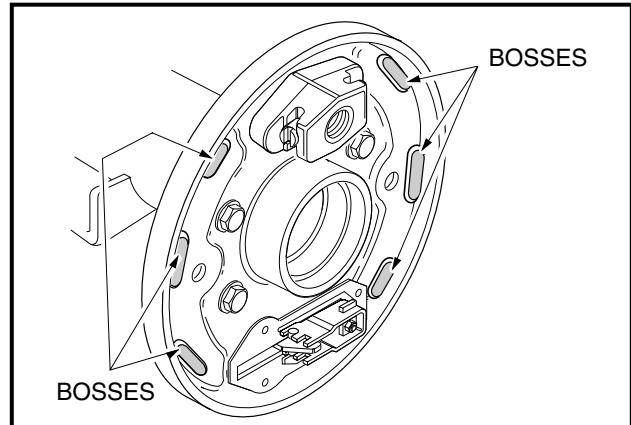

Figure 6-20 Lubricate Raised Bosses
4. Use a small brush to carefully apply a light coat of white lithium NLGI #2 grease (Dow Corning BR2-Plus or equivalent) on each of the six raised bosses on brake backing plate (Figure 6-20, Page 6-11). See preceding WARNING.